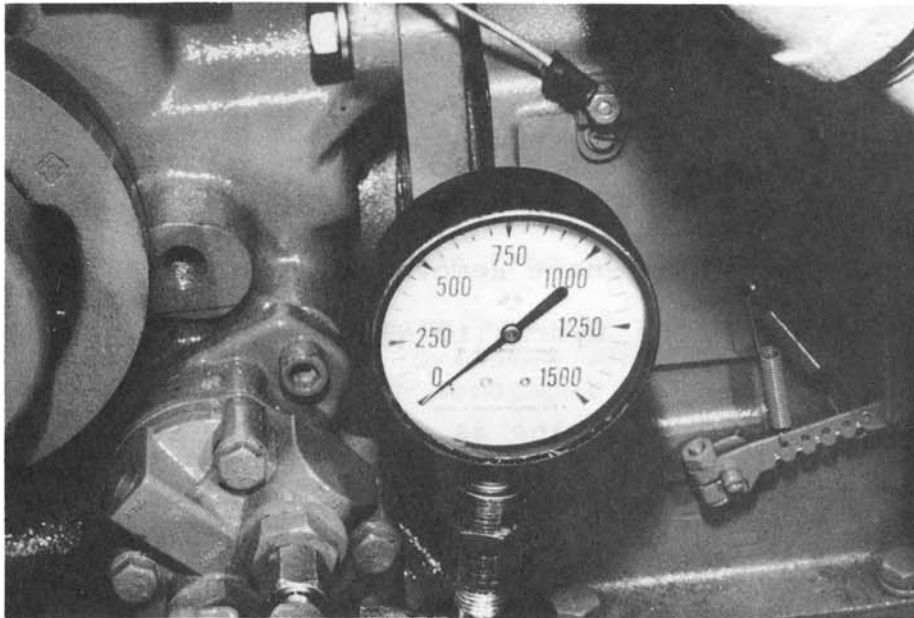

FIGURE 49
- b. Remove the adaptor fitting at the pump outlet and install the pressure gauge. Use two wrenches to avoid breaking the fittings. See Figure 49.